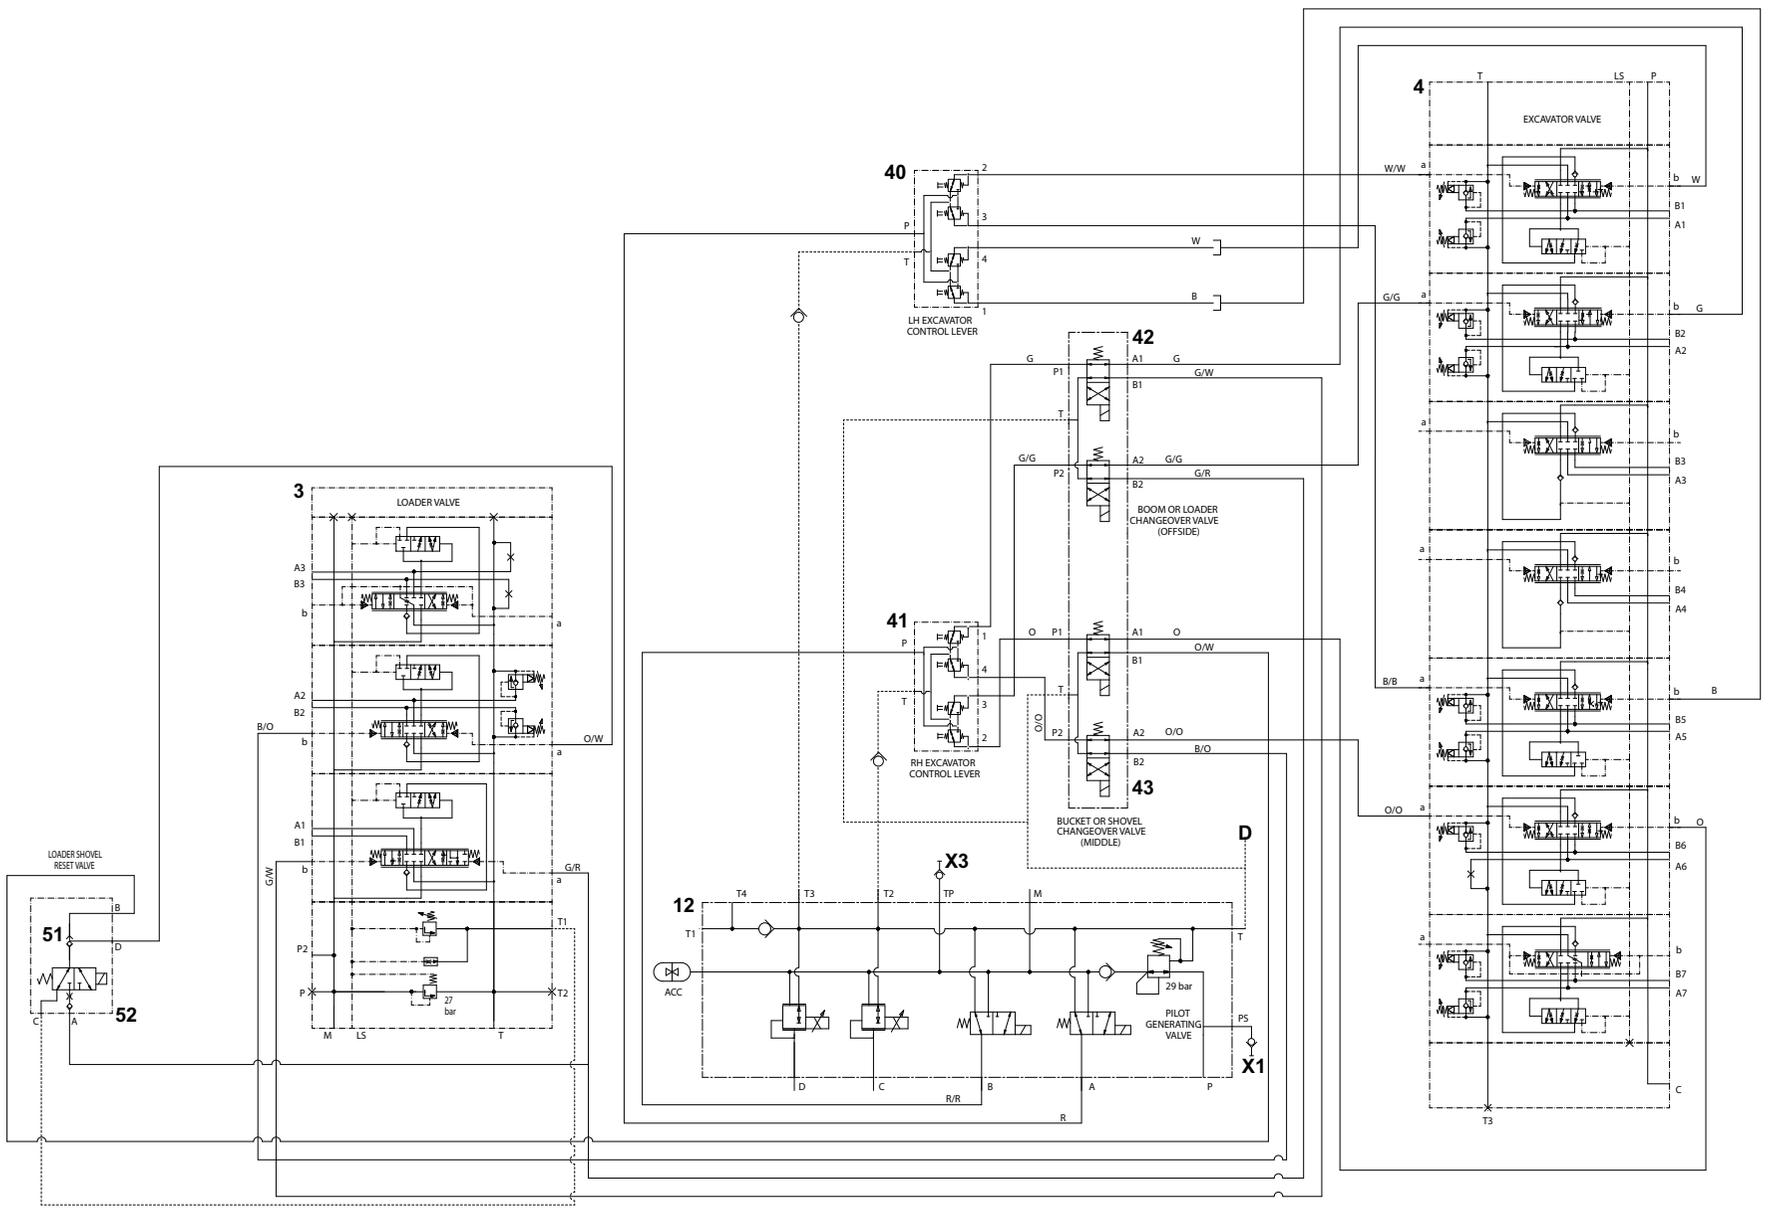

Fig 9. Pilot Circuit ISO Pattern, Loader Control Changeover and Shovel Reset, Sheet 2 of 6
- D From D ⇒ Fig 9. \(□ L-113\)
Component Key: Sheet 2 of 6 ⇒ Fig 9. \(□ L-113\)